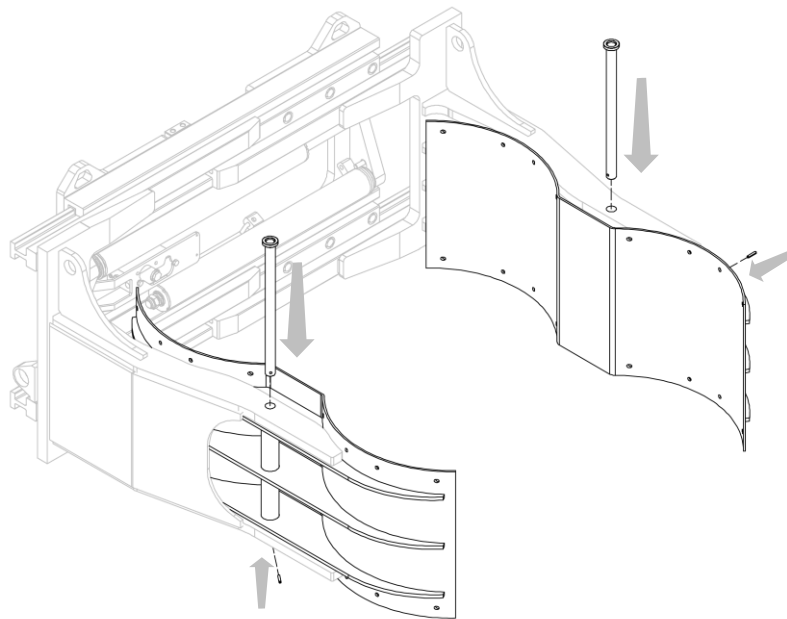
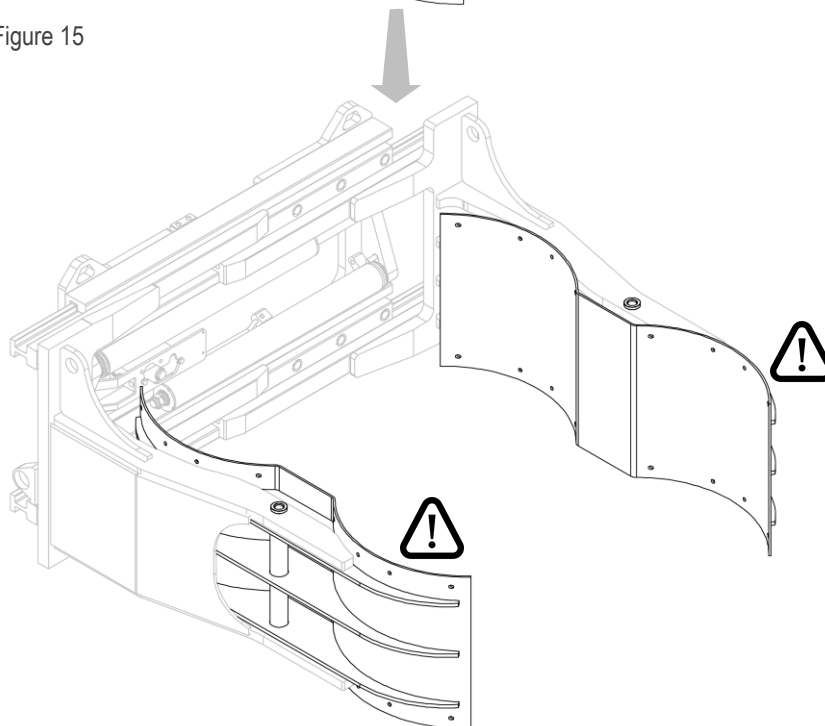

Figure 15
Figure 16
3. Assemble the jaws onto the forks, using the securing pins and spring pins (see *Figure 15* and *Figure 16*).